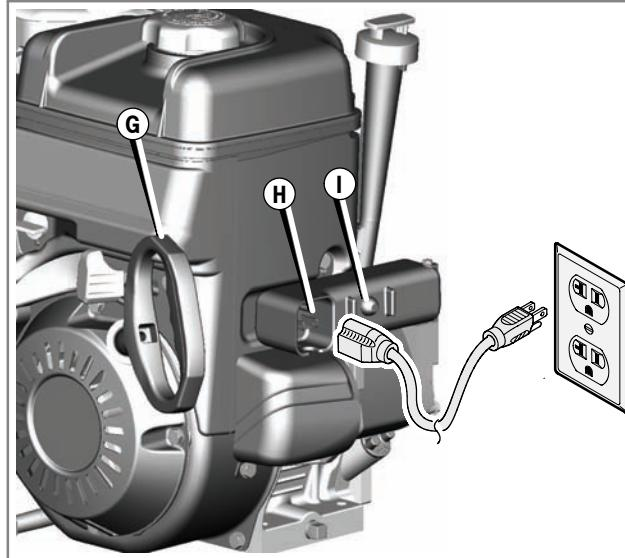

Figure 8
9. **Electric Start:** First connect the extension cord to the power cord receptacle (H, Figure 8) and then into a wall receptacle. If an additional extension cord is required, make sure it is a 3-wire.